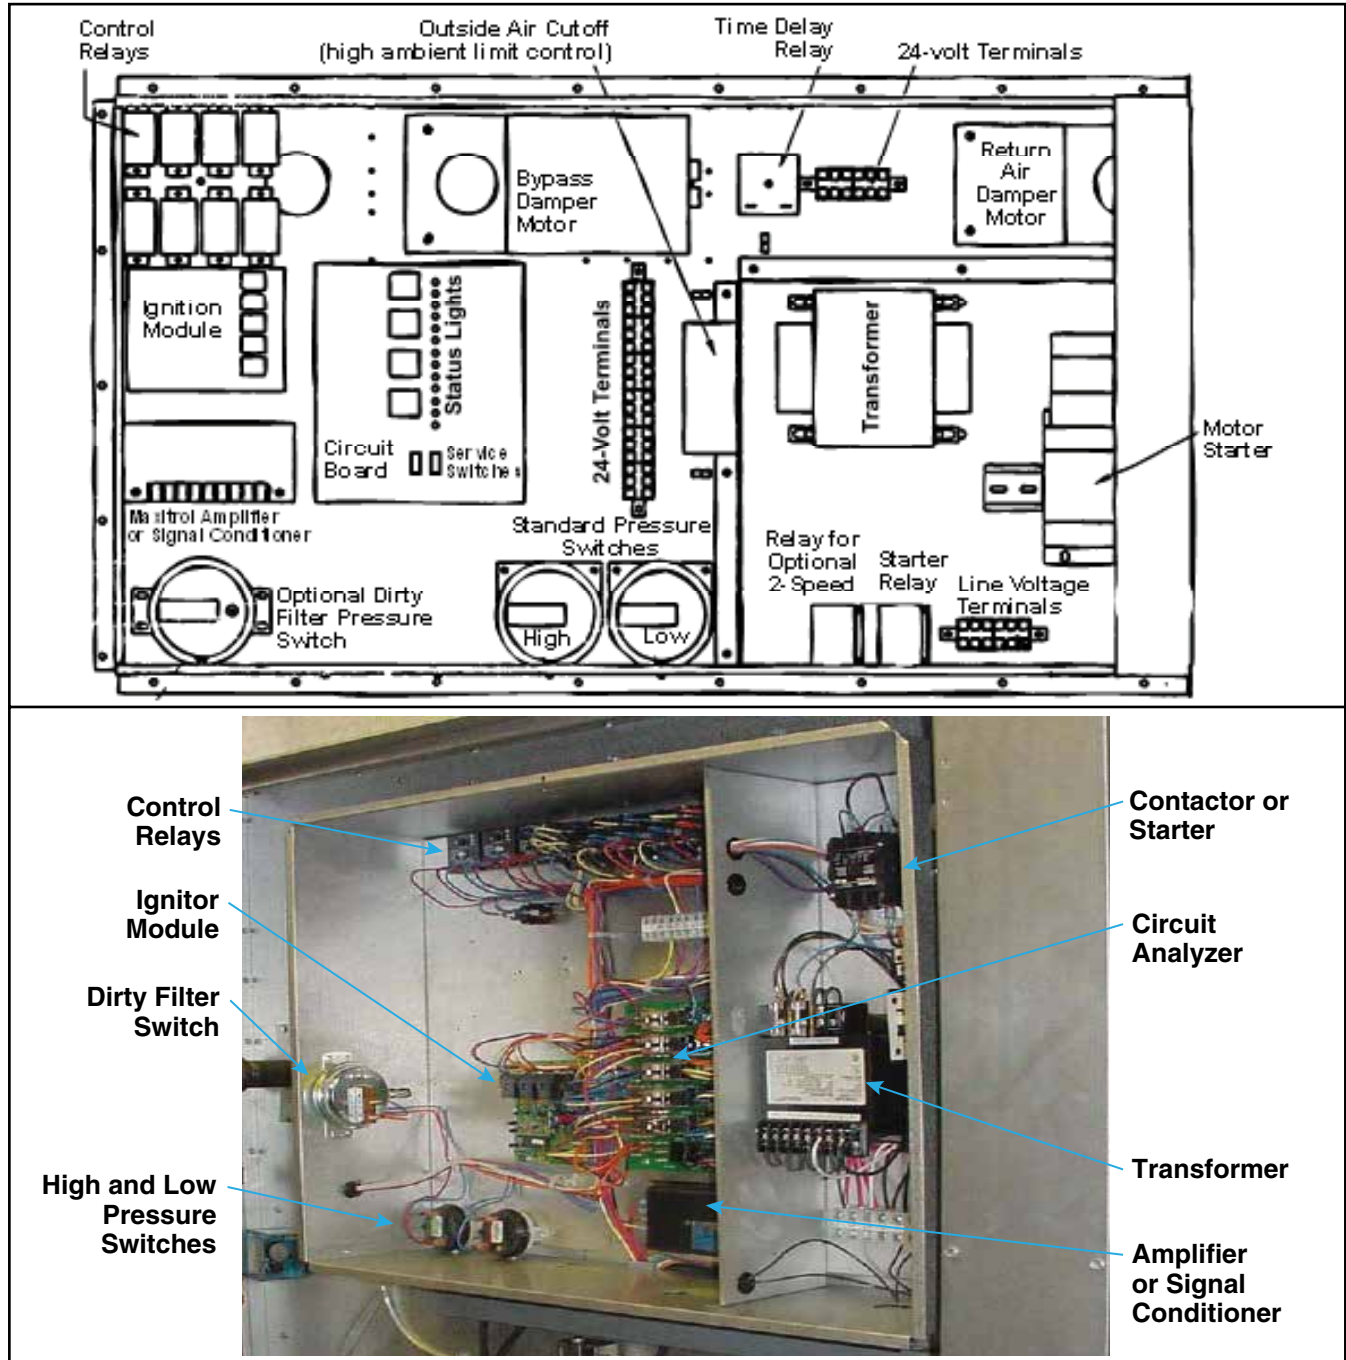

Figure 1. Electrical Control Compartment Typical Component Locations
- **Figure 1** shows the approximate locations of controls on model RDF series 3 units. Manufacture of series 3 units began in SEP 2003. Model RDF units manufactured prior to series 3 have similar controls but the control locations are different. Because this product has experienced ongoing development, always provide the complete model and serial number when inquiring about or ordering replacement parts.